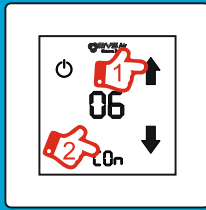

Fig. 9
- 3) Select the time in seconds by clicking on the **↓↑** icons and confirm by clicking on the **CO_n** icon again to confirm and exit (Fig. 9).